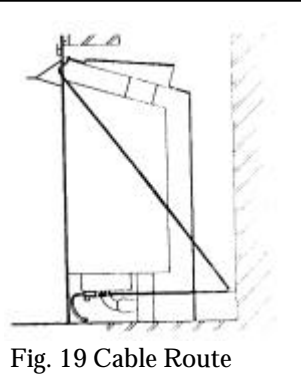

Fig. 19 Cable Route
7.1.2.5 Thread the cables through the eyebolts in the rear wall. Return the cables through the holes near the bottom of the convection box back panel and through the "V" shaped brackets near the bottom front sides of the convection box (see figure 19).